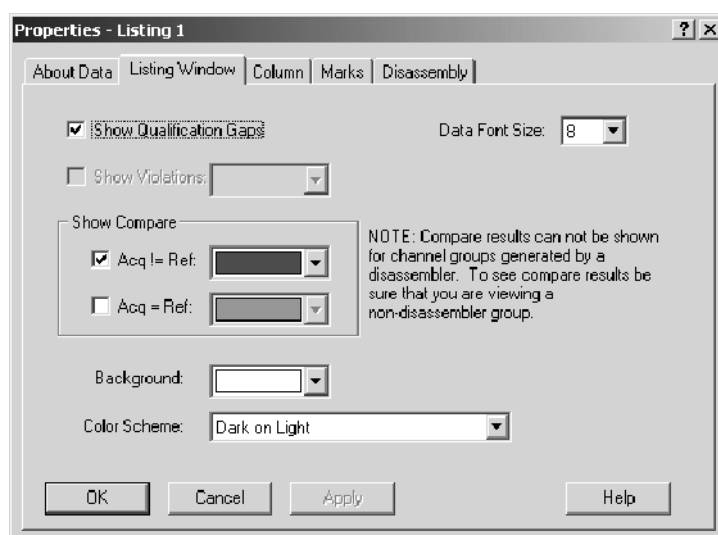

Figure 3-90: Selecting compare data colors in the Listing Window tab
3. Select Show Compare, and select one of the colors to indicate when data does not equal the reference data (Acq!=Ref). See Figure 3-90.